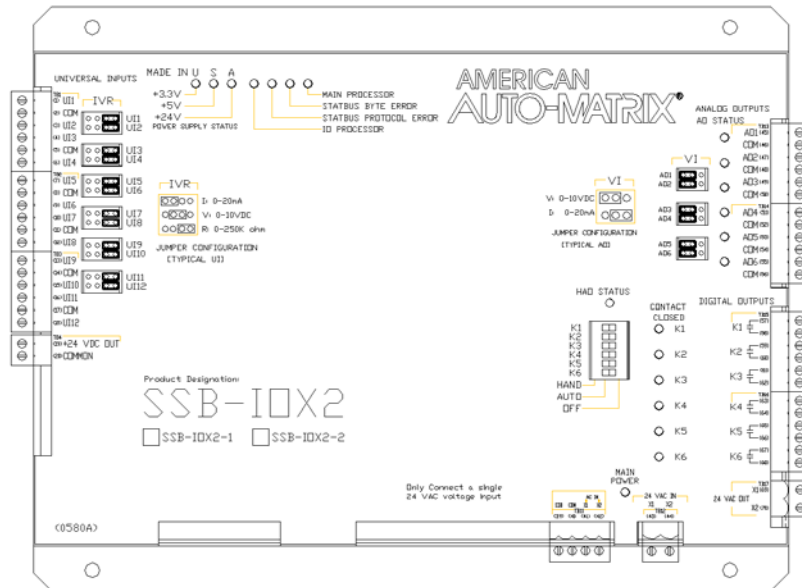

Figure 5-60 : The SSB-IOX2-1 Module
The SSB-IOX2-1, shown in Figure 5-60, is a STATbus module based on the same hardware as the GPC1 controller. It provides four (12) universal inputs, six (6) analog outputs, and six (6) digital outputs.